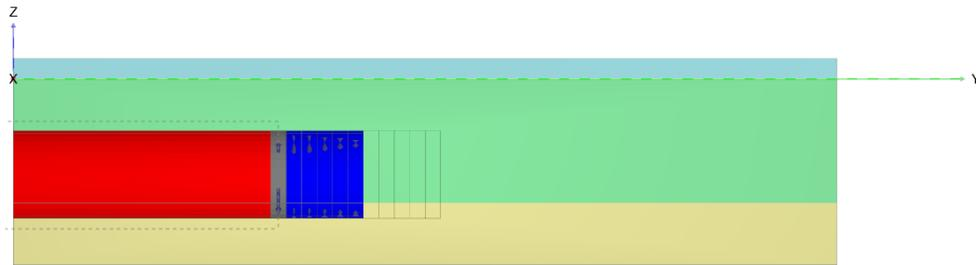

Figure 89: Selection of plate (0 m - 25 m)
- a. Select the **Select plates** option in the appearing menu. Select the surfaces between 0 m and 25 m in the model to which plates are assigned (Figure 89 (on page 116))